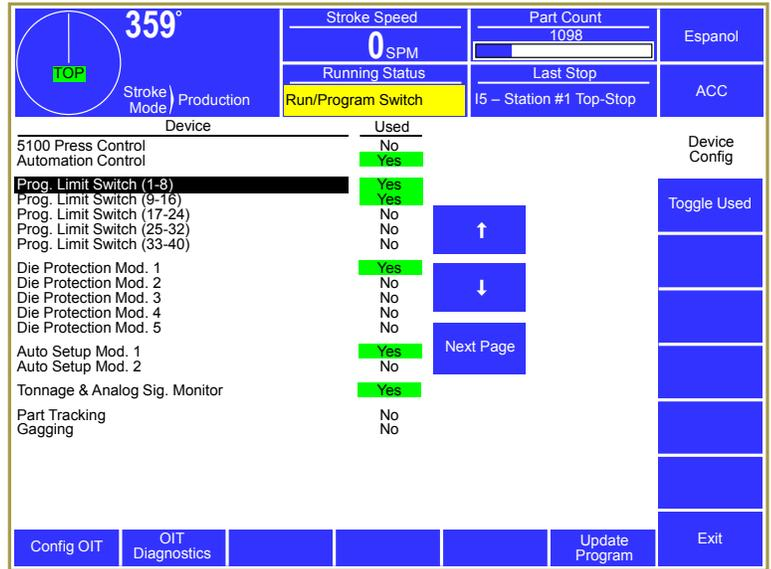

Figure 42: Device Config Screen
- Press the **ACC** softkey (near the upper right corner of the display) to display the “Quick Access” screen. With the RUN/PROG key in the PROG position, the lower left hand softkey should show as **Device Config**. Press this softkey and enter the system configuration code to gain access to the “Device Config” screen as shown in Figure 42. This screen contains a list of the options that can be used with the operator terminal.
- The option name to turn on for the base system is “Automation Control” or, in some older versions of the OT806 software, “R/D - Brake Monitor”. This entry **MUST** have its “Used” column set to “Yes”. Other optional modules and/or functions are also listed with the most commonly used modules on the first page. Press the **Next Page** softkey to see other modules. Set the “Used” status of all installed modules to “Yes”. The example screen of Figure 42 shows a system with the Automation Control, Programmable Limit Switches 1 – 16, Die Protection Module 1, and Auto Setup Module 1 installed.